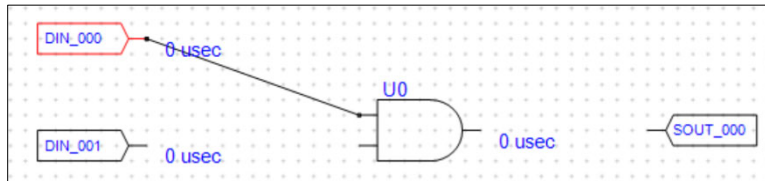

Figure 69 - DIN_000 Selected
- 1) Select the object to be moved, as shown in Figure 69 - DIN_000 Selected.